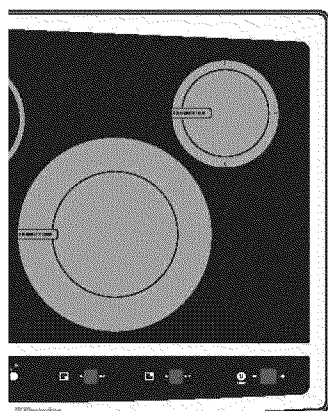

Fig. 1
1. Place the prepared food using the correct type and size cookware on the desired Cooking Zone. Be sure to center the cookware on Cooking Zone completely covering the minimum ring marked on the Zone surface. PLEASE NOTE: If the cookware requirements for the Cooking Zone (See Fig. 1, page 15) are not met the sensors will detect a problem and display the letter **F** in the affected Cooking Zone LED. Any problems must be corrected before proceeding.